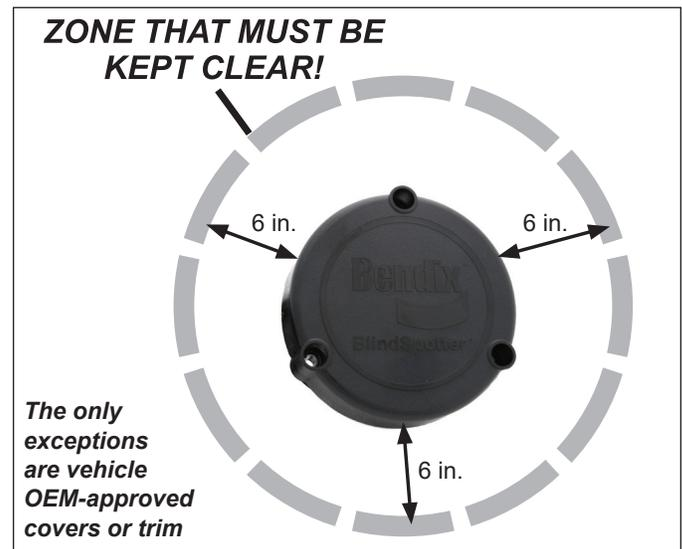

Figure 7 - Clearance Zone Around the Sensor
- The radar's field of view must NOT have interference from any other vehicle components such as hand rails, aftermarket lights, seasonal decorations, or any other commonly mounted vehicle components. The radar signal is emitted from the front of the sensor with a spreading beam. In order to ensure that no adverse interference is experienced from other nearby vehicle equipment, a suitable clearance must be maintained around the radar. This clearance must be maintained regardless if the vehicle is stationary or in motion. See *Figure 7* for a general guide to the zone required.
- To reduce the possibility of the sensor detecting objects mounted to the vehicle—like the steps or fuel tanks—make sure the face of the sensor extends out a minimum of 5/16 of an inch further than any other object within six (6) inches of the sensor's body. See *Figure 7*.